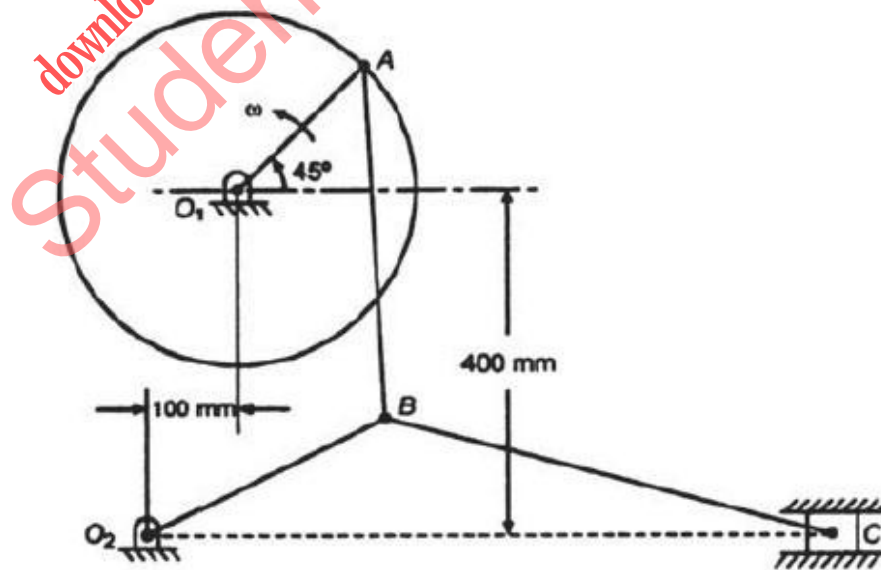

Figure 1
4. The slider C of the toggle mechanism as shown in figure 1 is constrained to move on a horizontal path. The crank  $O_1A$  rotates in the counter clockwise direction at a uniform speed of 180 rpm.  $O_1A=200$  mm,  $AB=400$ mm,  $O_2B=300$  mm,  $BC=600$  mm. Determine the velocity of the slider, angular velocity of links  $AB, O_2B$  and  $BC$ , rubbing velocity on the pins of 25 mm diameter at  $A$  &  $C$ , torque required at crank  $O_1A$  for a force of 2 kN at  $C$ . [15]